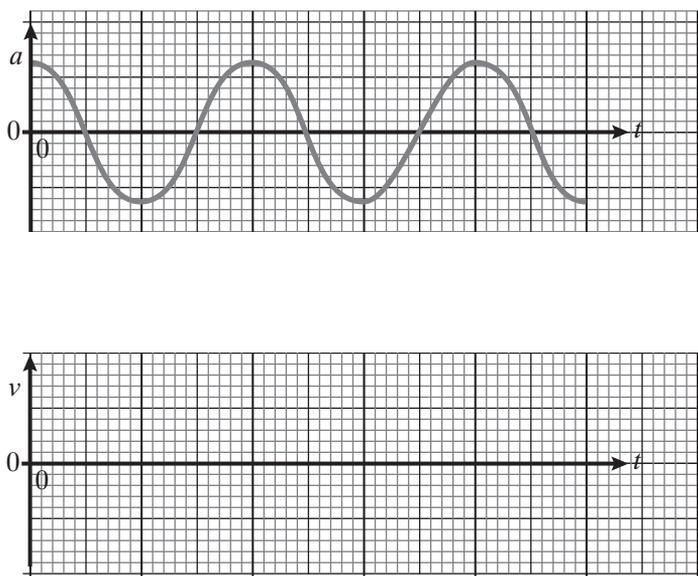

Figure 6
- Copy **Figure 6** and sketch the corresponding $v-t$ graph to show how the phase of velocity v relates to that of the acceleration a .